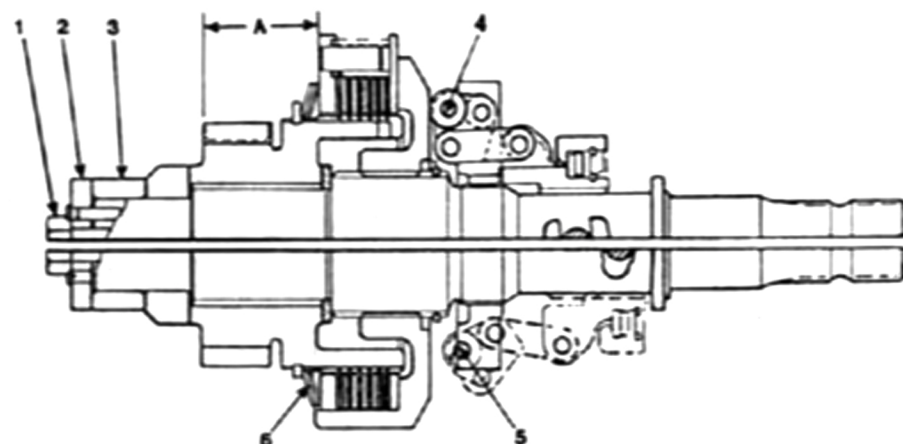

Fig. 20—Sectional view of front drive clutch assembly in engaged (top) and disengaged (bottom) positions. Refer to text for adjustment procedure.
Adjust the clutch as follows: Refer to Fig. 20 and make sure cap screw (1) is tight. With clutch in disengaged (5) position, measure distance (A). Then, with